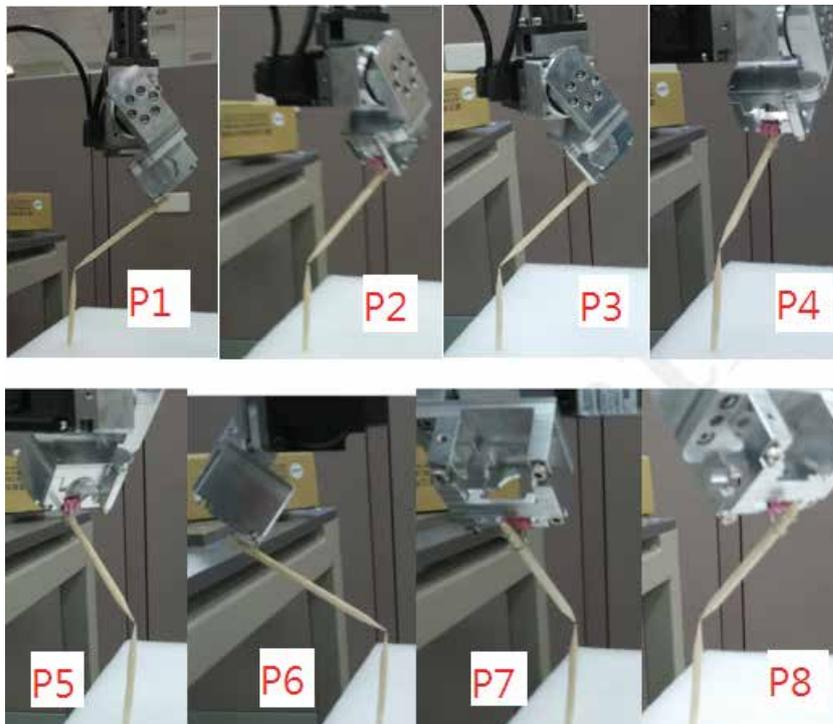

Figure 2-24 Point Data – Tool Size Calibration (Points P1~P8)
- ii. Teach points 2~8, shown as Figure 2-24, press P1~P8 and then press Teach to record this point.